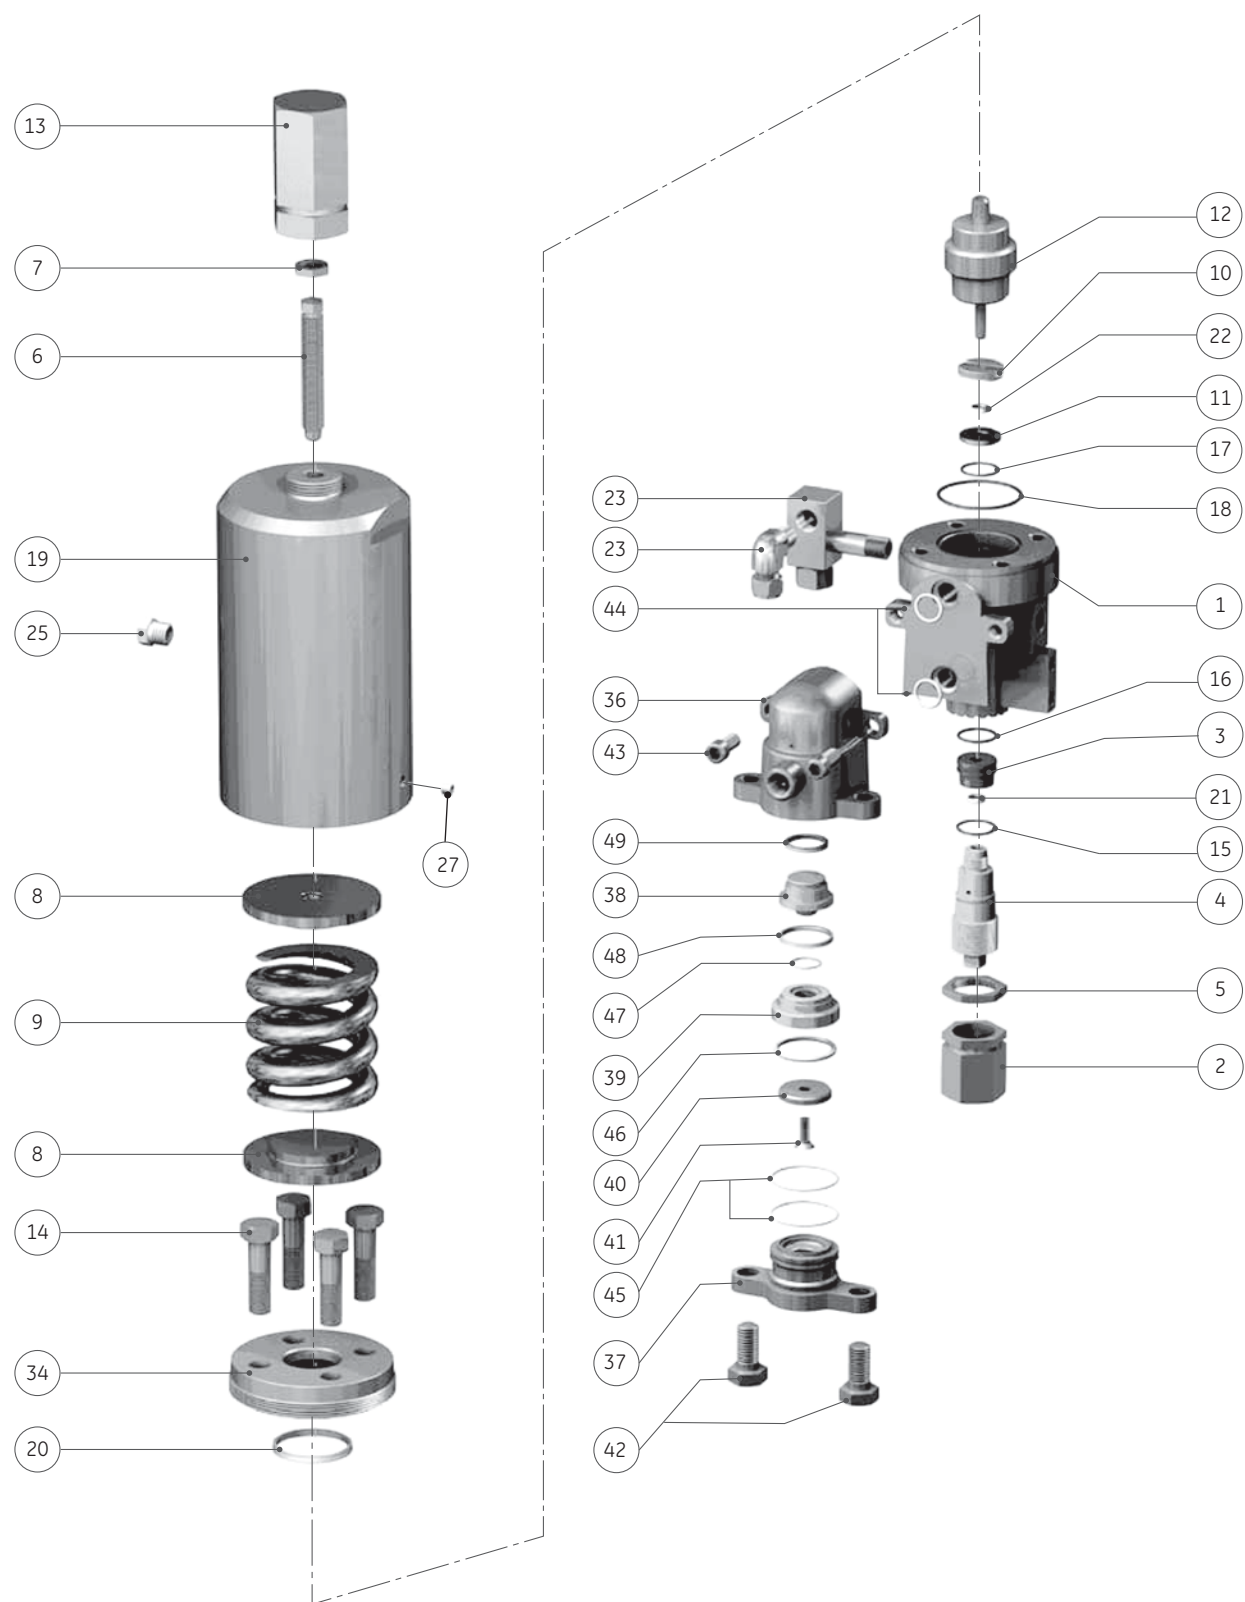

Figure 24: 39MV07 Disassembly
3. If a lifting lever is installed, also use Figure 23 to remove the lifting Lever assembly. Then return to Figure 24 to continue disassembly.